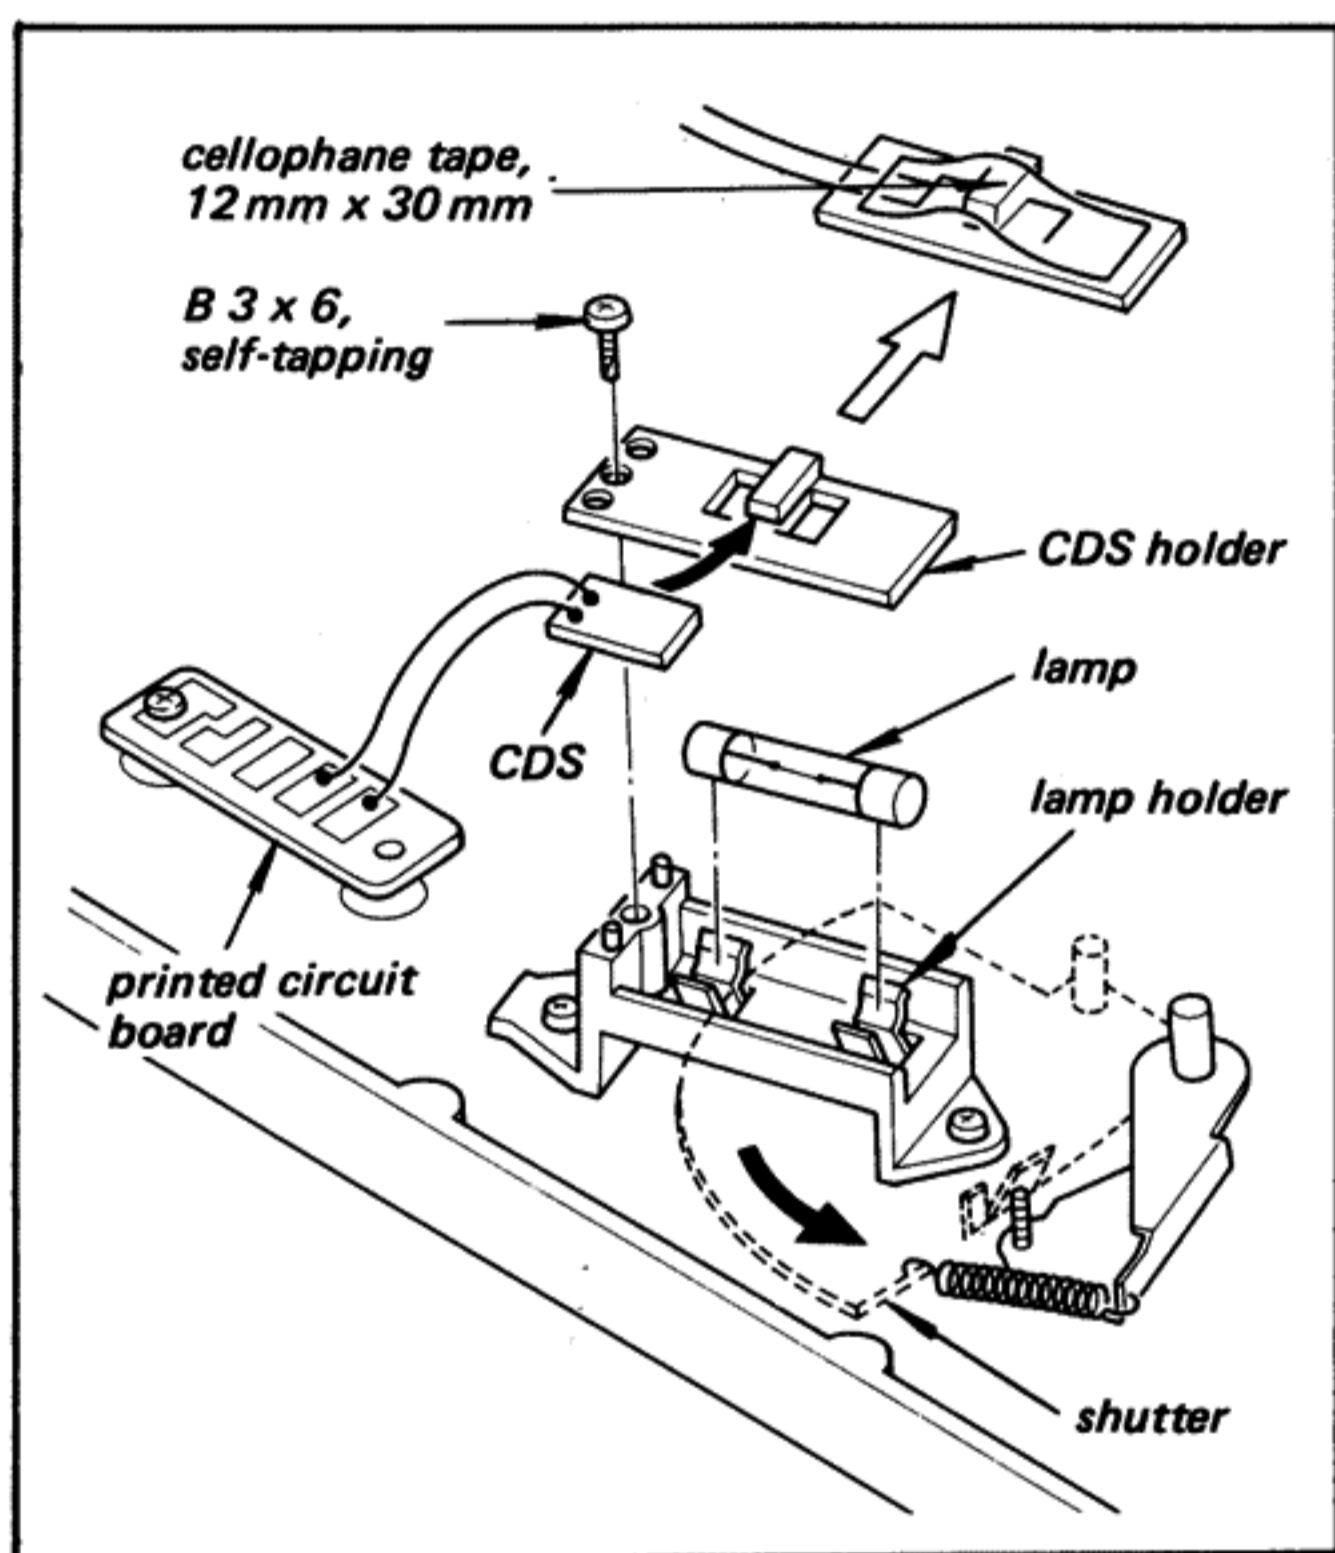

Fig. 2-10. CDS replacement
- Unsolder the two lead wires of CDS at the printed circuit board as shown in Fig. 2-10.
- Remove the CDS holder by removing the screw (B 3 x 6, self-tapping) shown in Fig. 2-10.
- Move the tonearm toward the turntable shaft to remove the shutter of the tonearm lever from the lamp holder as shown in Fig. 2-10.